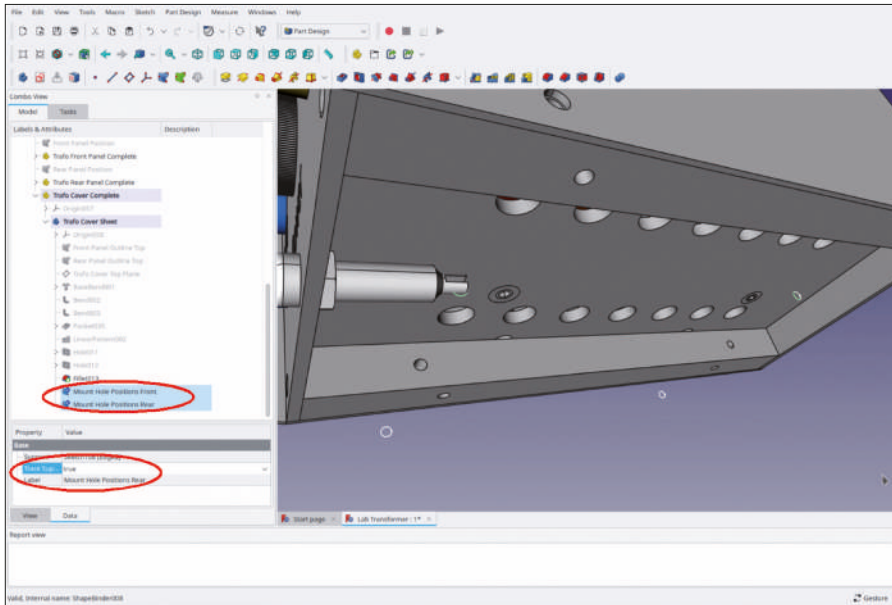

Figure 9-144
5. Scroll down to the 'Trafo Cover Sheet' body and rename the new shape binders to 'Mount Hole Positions Front' and 'Mount Hole Positions Rear' (Figure 9-144). Set the property 'Trace support' for both shape binders to 'true'.